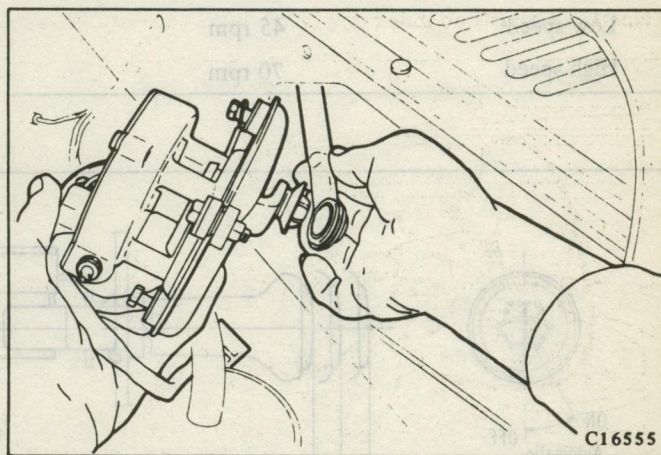

Fig. 142 Removing Wiper Motor
(2) Remove the bolts that hold motor bracket to the body and pull out the wiper motor assembly toward you.
(3) Disconnect the wiper motor and linkage in such a manner that the motor shaft and linkage are positioned at right angles with each other and linkage is removed while holding the shaft right by hand. (Fig. 142)